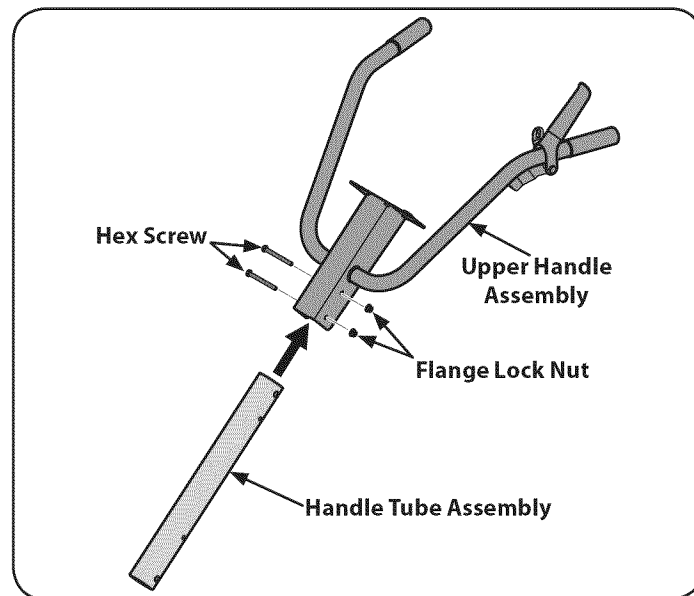

Figure 2
2. Using two hex screws and flange lock nuts secure the handle tube assembly to the upper handle assembly. See Figure 2.